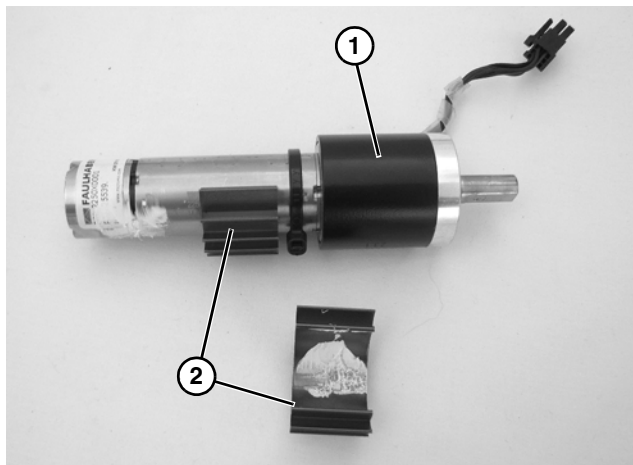

Figure 77
8. Remove motor (**Figure 77, item 1**).
9. Snap off heat sinks (**Figure 77, item 2**).